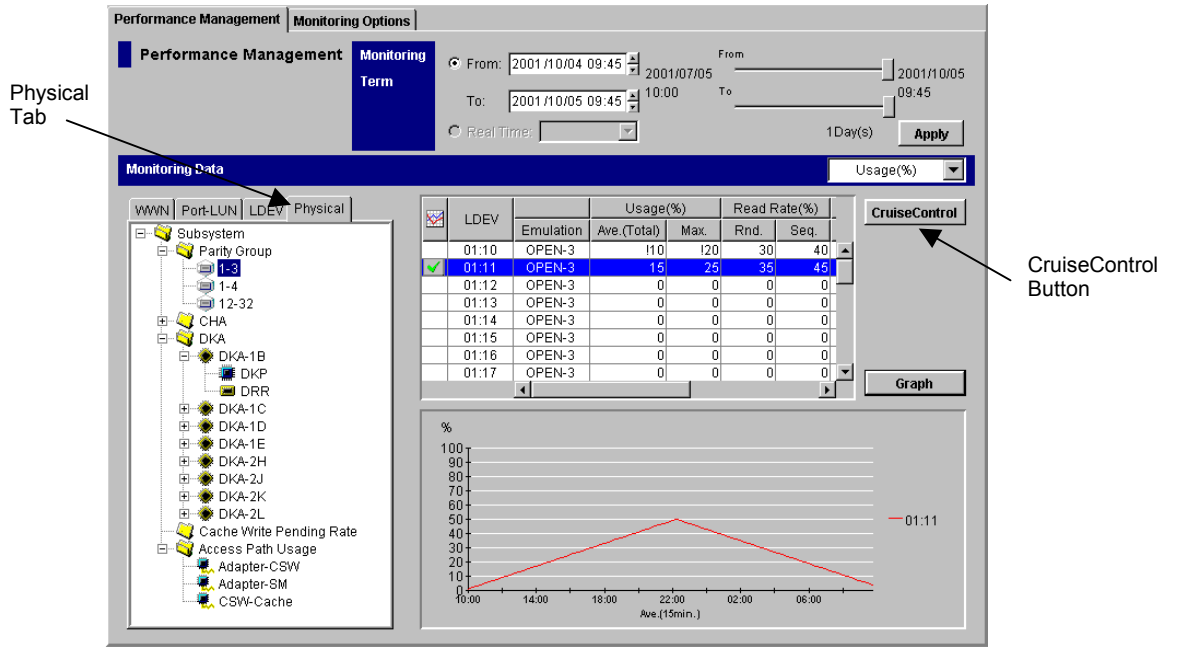

Figure 3.1 Physical Tab of the Performance Monitor Panel
2. Ensure that the **Physical** tab in the Hitachi Performance Monitor panel (see Figure 3.1) is selected (for details, please refer to the *Hitachi Freedom Storage™ Lightning 9900™ V Series Performance Monitor User's Guide* (MK-92RD133)).